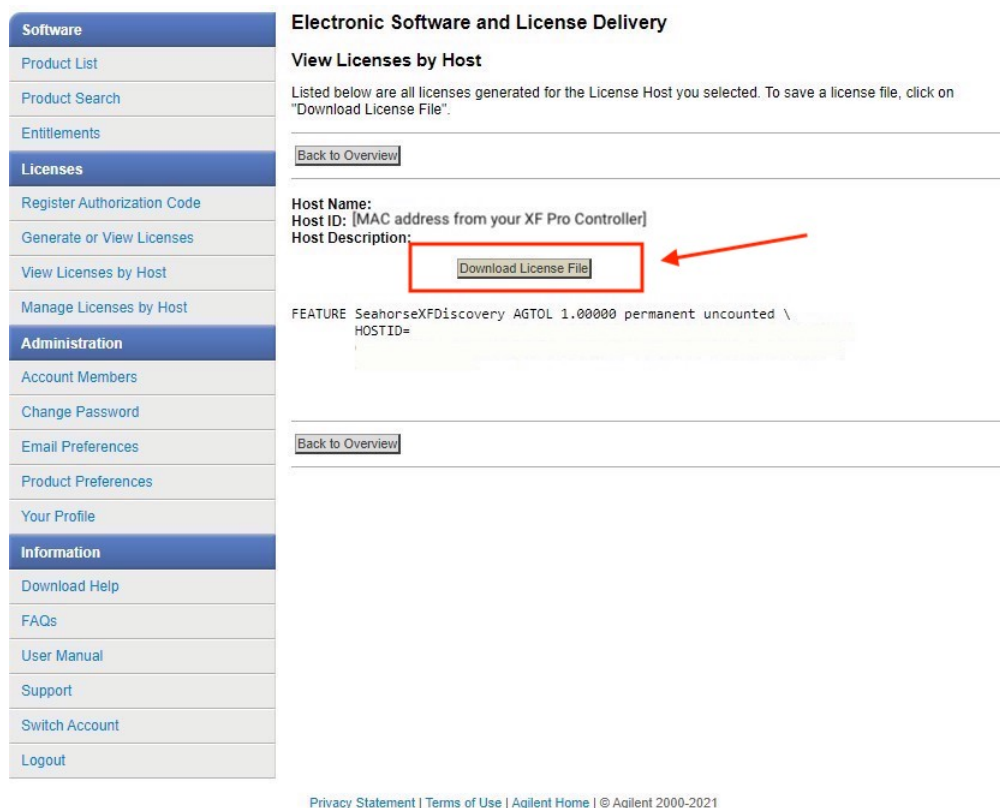

Figure 76. SWLIC-F9
- 12 When SubscribeNet generates the license, you will automatically see the View Licenses by Host dialog, click **Download License File** (Figure 76). Save the license file to your computer and to a backup location, such as a portable storage device.